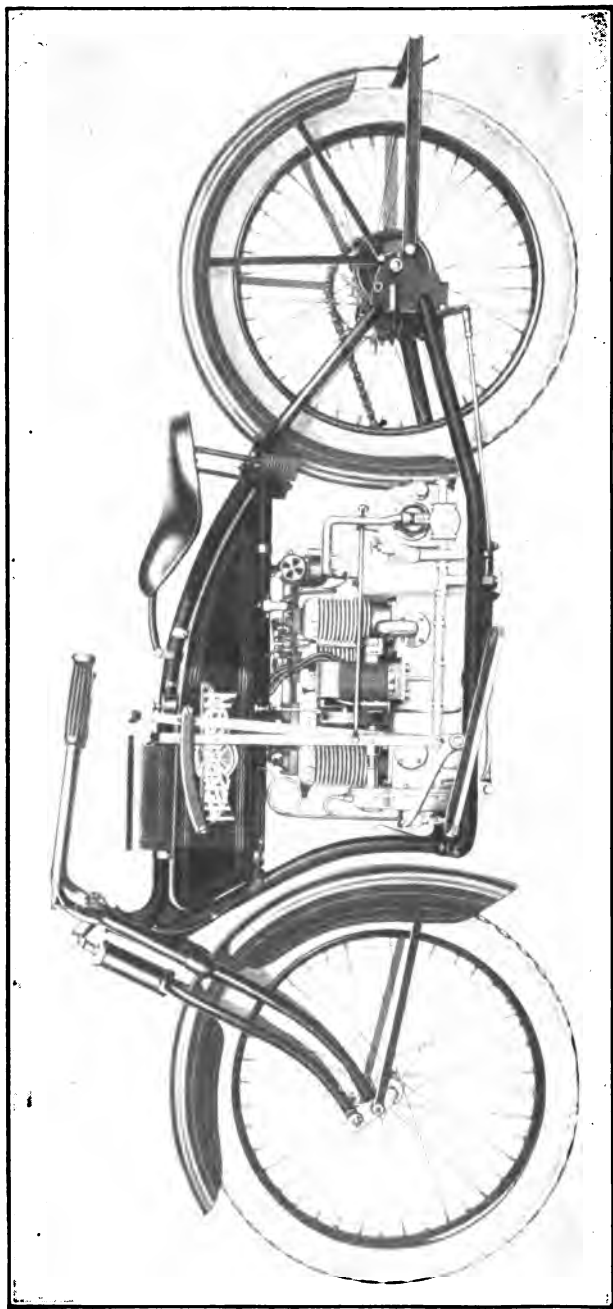

Fig. 13. Henderson Four-Cylinder Motorcycle
*Four-Cylinder.* The Henderson Motorcycle Company, of Detroit, has been the successful champion of the four-cylinder design, Fig. 13. These engines are air cooled and have a bore of  $2\frac{1}{2}$  inches and a stroke of 3 inches, giving a piston displacement of 58.9 cubic inches. The Henderson has been on the market for several years, and the construction in the past has included a bevel gear at the rear of the crankshaft, which drove through a chain to a planetary two-speed transmission incorporated in the rear hub. For the coming season,